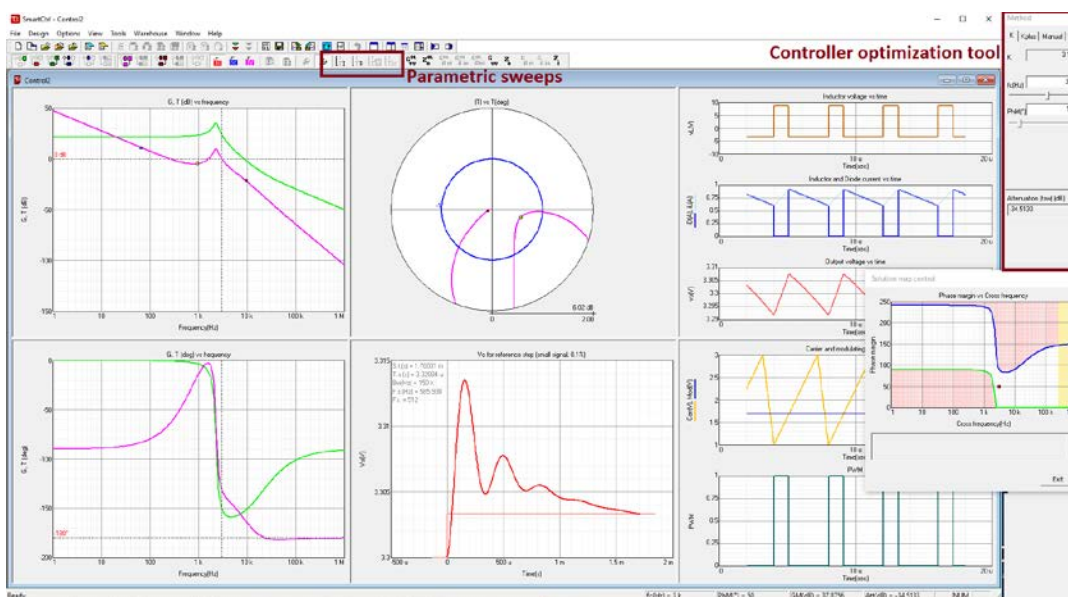

Figure 15: SmartCtrl results window
- 6. Click OK to confirm the design and the program will automatically show the performance of the system in terms of frequency response, Nyquist plot, transient response, etc. Additionally, optimization tools such as parametric sweep for sensibility analysis and control loop optimization algorithms, are provided. See the Figure 15.